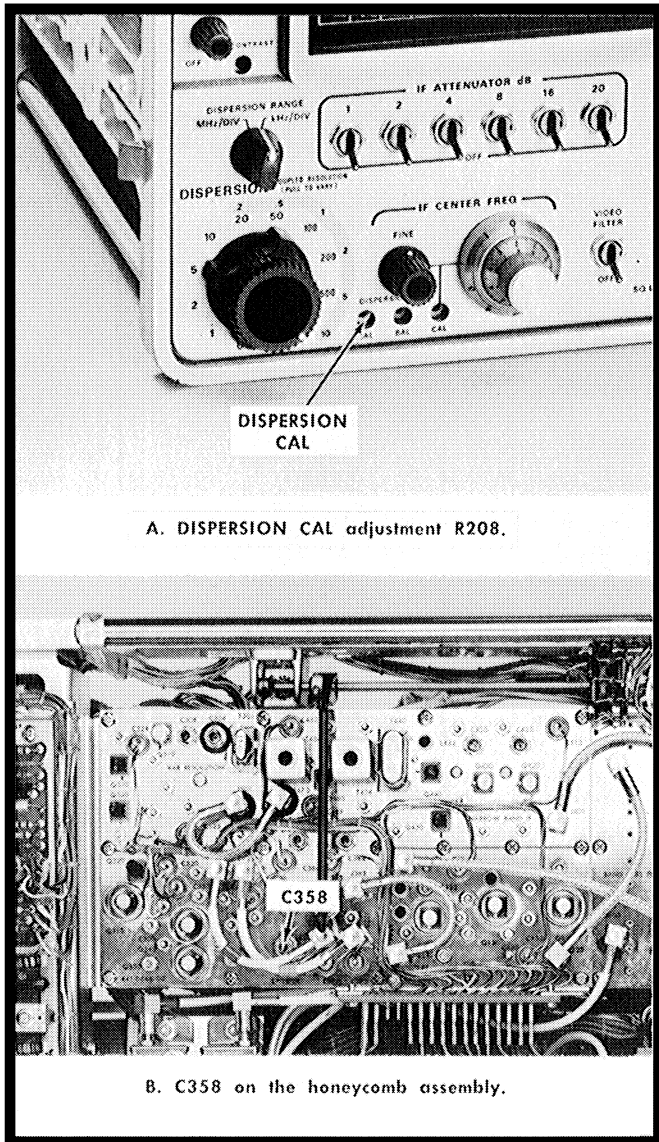

Fig. 6-22. Dispersion calibration adjustments.
d. Adjust the DISPERSSION CAL R208 (Fig. 6-22) for 1 marker/division over the center 8 graticule divisions, then adjust C358 for display linearity.